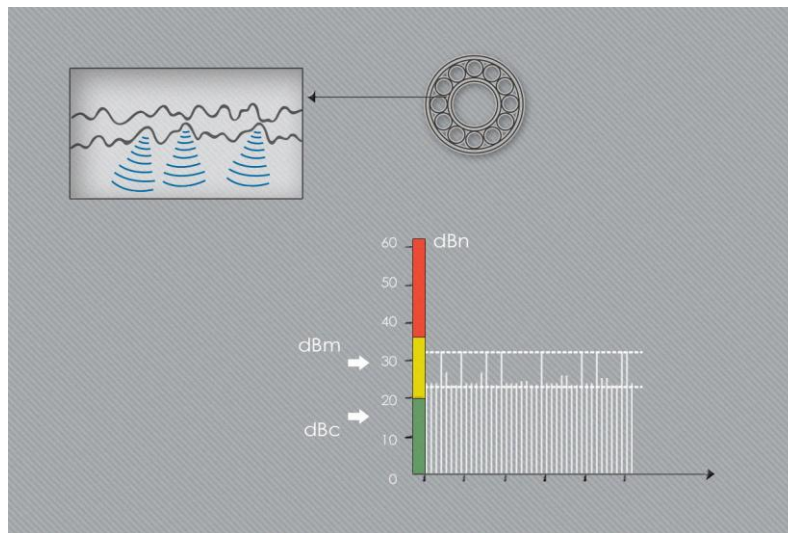

Figure 4-14. Improper lubrication mode.
f) Improper lubrication (Figure 4-14).